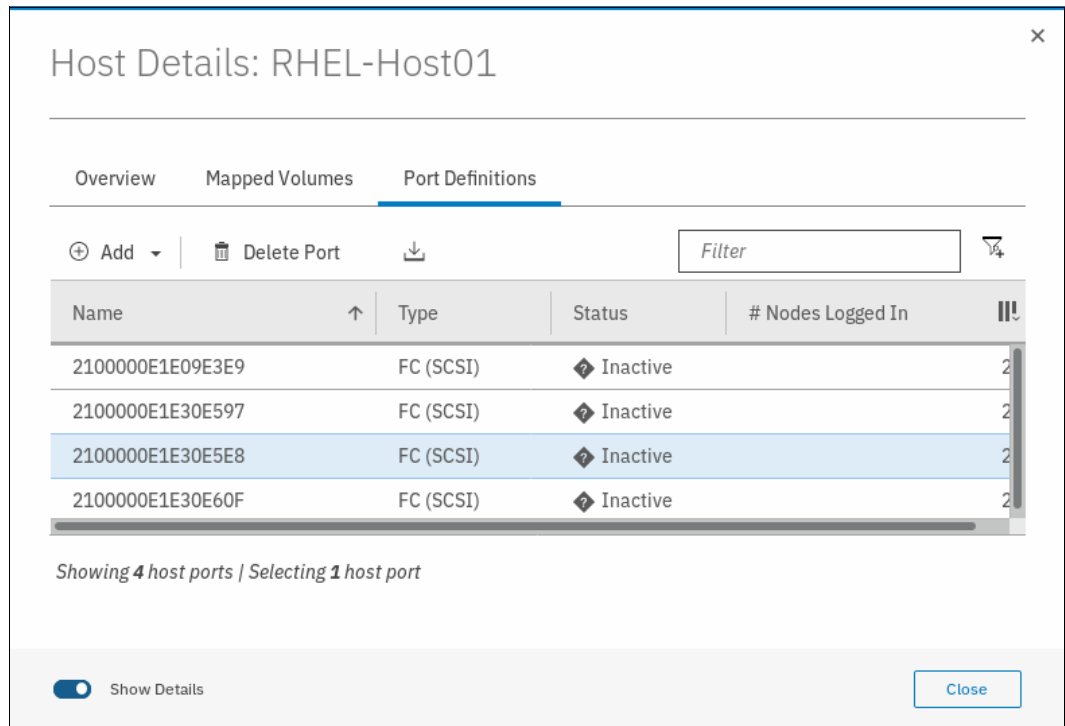

Figure 8-31 Select port to delete
1. Select the port that you want to delete, as shown in Figure 8-31 on page 405.